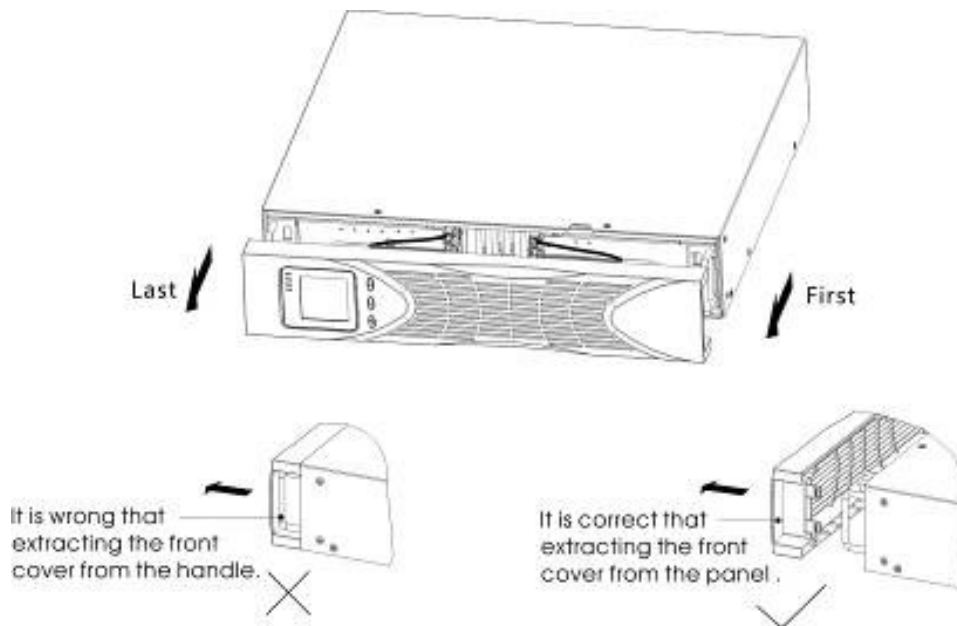

Figure 8 Removing the EBP Front Cover
(1) To install the optional EBP(s) for a UPS
- a) Remove the front cover of each EBP and UPS (see Figure 8).